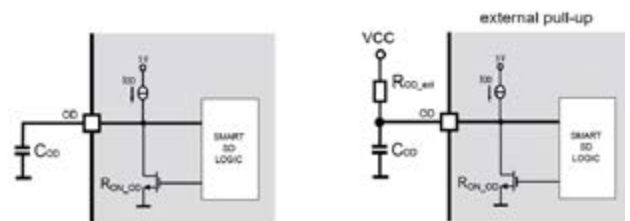

Figure 5: Smart ShutDown timing waveform.
This allows the designer to increase the duration of the output disable time after the fault event up to very large values without increasing the delay time of the protection. The duration of the disable time is determined by the values of the external capacitor  $C_{OD}$  and of the optional pull-up resistor connected to the (OD) pin (see Figure 5).
The OD unlatch time ( $t_1$  in Figure 5), which is the time required to discharge  $C_{OD}$  capacitor down to  $V_{SSDI}$  threshold. The discharge starts as soon as the SmartSD comparator is triggered.
The OD Restart time ( $t_2$  in Figure 5), which is the time required to recharge the  $C_{OD}$  capacitor up to the  $V_{SSDh}$  threshold. The recharge of  $C_{OD}$  starts when the OD internal MOSFET is turned-off, which happens when the fault condition has been removed ( $CIN < V_{REF} - C_{INHyst}$ ) and the voltage on OD reaches the  $V_{SSDI}$  threshold. This time normally covers most of the overall output disable time.